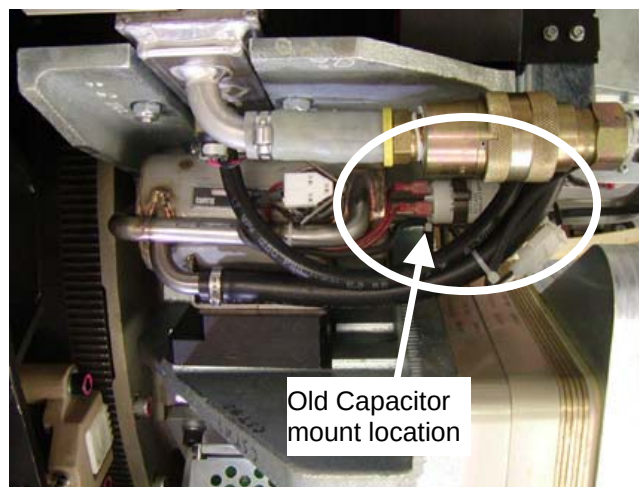

Figure 2 Old Capacitor Mounting Location
4. Verify the tube pump capacitor is mounted exactly as shown in Figure 2. If there is a capacitor mounted in a different location, then do NOT perform this FMI, the system has already been modified. Close this FMI for this system as previously modified.